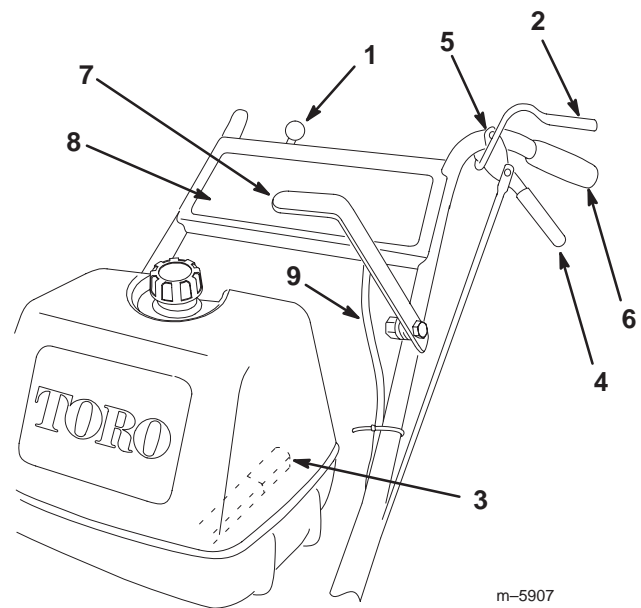

Figure 12
7. Use the wire ties to secure the wire harness and the throttle cable to the left handle and away from the blade control (PTO) lever (Fig. 12).
Become familiar with all the controls (Fig. 12) before you start the engine and operate the machine.
1. Move the throttle lever to the **Slow** position (Fig. 12).
2. To stop the engine, pull the throttle all the way back to the **Stop** position (Fig. 12).
1. Squeeze the operator presence control (OPC) levers against the handles (Fig. 12).
2. Push the blade control (PTO) lever firmly forward until it latches over the center (Fig. 12).
Pull the blade control (PTO) lever **fully** rearward (Fig. 12).